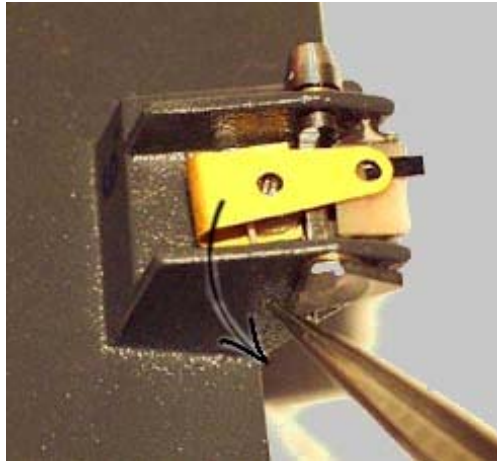

Fig. 2-33
5. Once the probe is in working position, clamp it with a clip. To do this, turn the lever to the holding position using the forceps (Fig. 2-33);